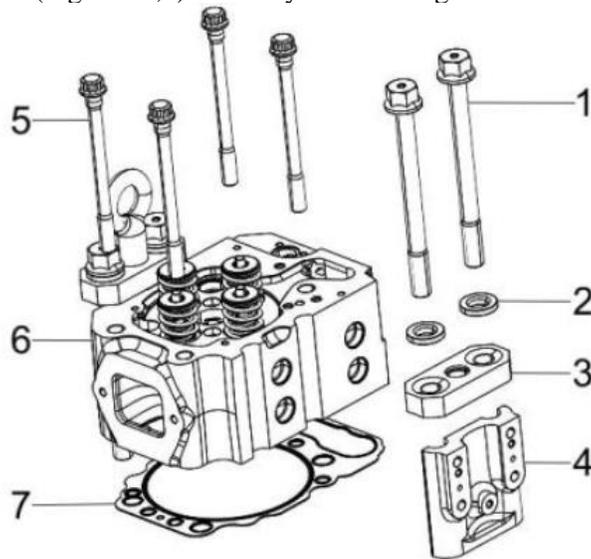

Figure 73. Cylinder Head Assembly
1. Carefully clean both the combustion surface of the cylinder head and the top surface of the cylinder block. Then place a new cylinder head gasket (Figure 73, 7) on the cylinder block.
2. Position the cylinder head (Figure 73,6) on the cylinder head gasket.
3. Lightly oil the threads and shoulder of the cylinder head main bolts (Figure 73, 5) and cylinder head secondary bolts (Figure 73, 1). Lightly oil the clamping block (Figure 73, 2) and end plate (Figure 73, 3).